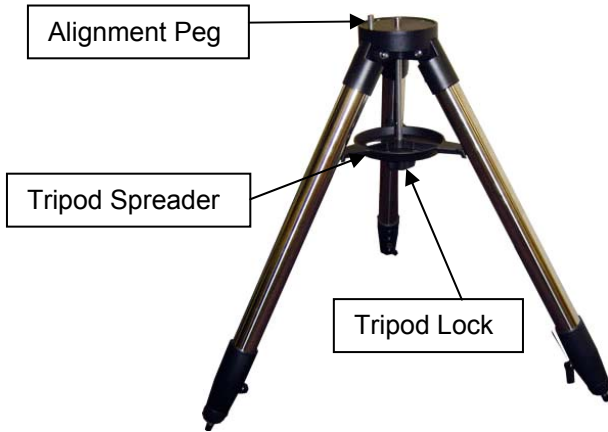

Figure 1
- A. Setup tripod:** Expand the tripod legs and lock the Tripod Spreader so that the tripod legs stay open (Figure 1). Adjust the tripod height by unlocking and re-locking the tripod legs to desired height. Position the tripod so that the Alignment Peg faces north. (*The Alignment Peg may be moved to the opposite position if used at latitude lower than 20° to avoid counterweights hitting the tripod leg*).